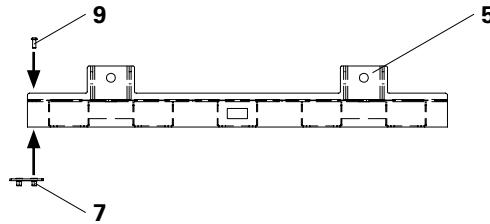

Fig. B2.01
1. Mount Joint Filler Sheet RCS-MP 250 (7) on the required Platform Panels RCS-MP (5/6) using 7x Oval-Head Screws ISO 7380 M10 x 25-10.9 (9) each. (Fig. B2.01)